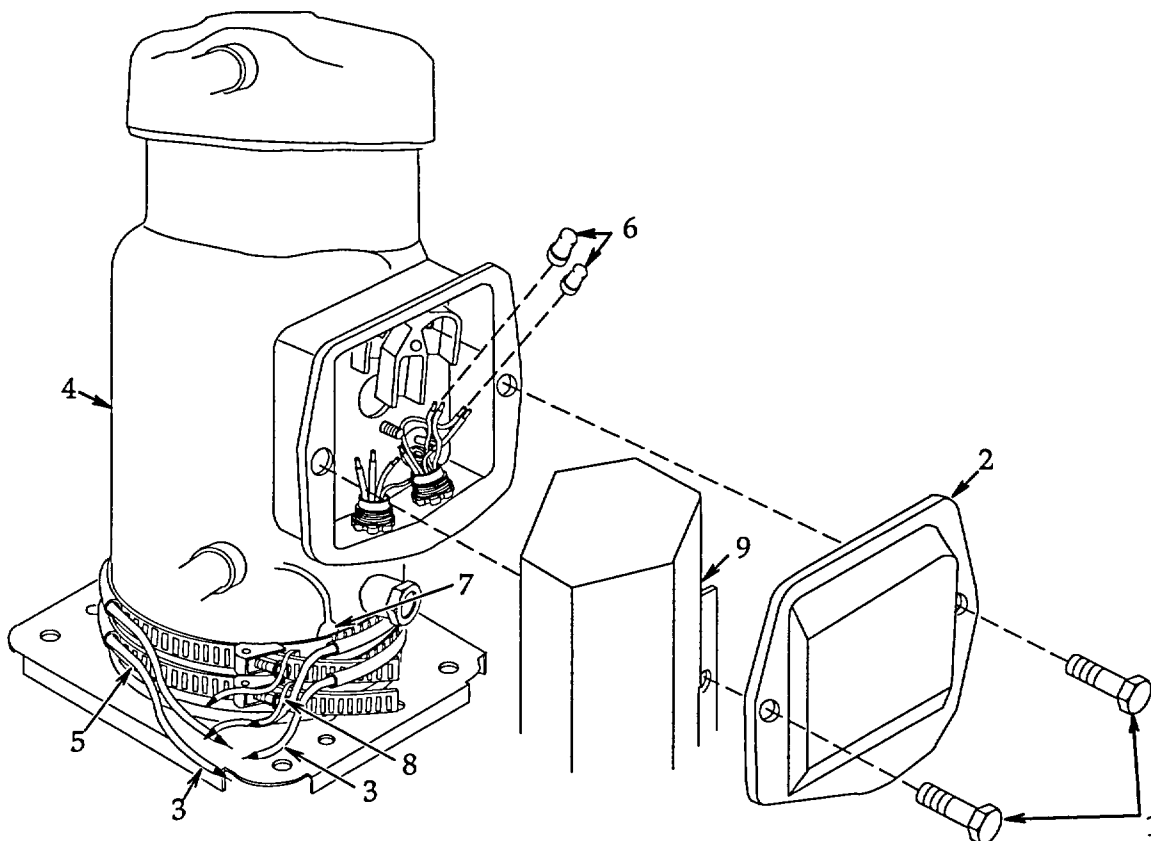

Figure 4-48. Crankcase Heaters (HR1 & HR8) (FDECU-2 ONLY).
a. **Removal.** See figure 4-48.
b. **Installation.** See figure 4-48.